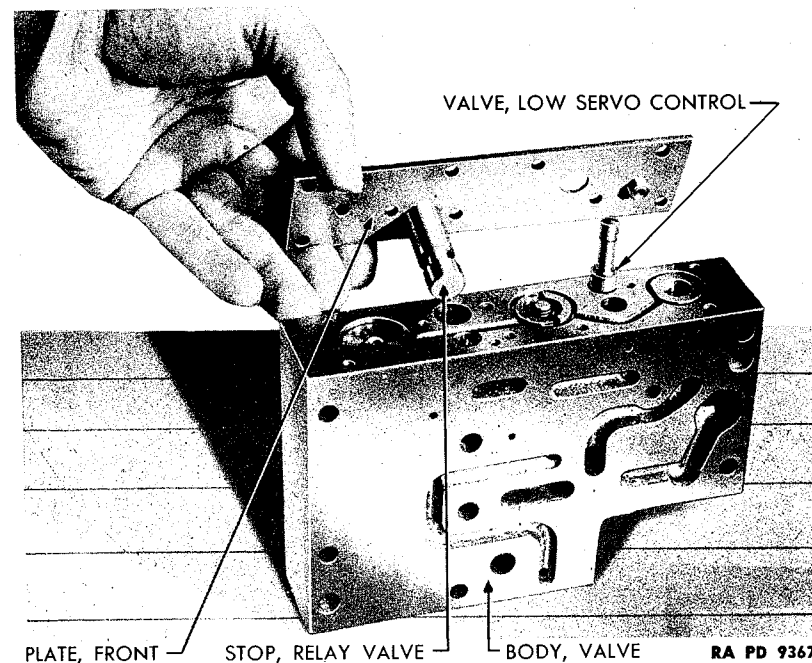

Figure 92 — Front Cover Plate and Relay Valve Stop
Remove nine front cover plate mounting screws and lock washers, and remove front cover plate (V), and relay valve stop (T) as an assembly (fig. 92). Do not attempt to remove relay valve stop from plate.
- (7) REMOVE VALVES AND SPRINGS FROM CONTROL VALVE BODY.